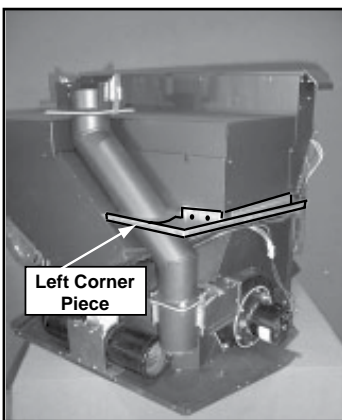

Figure 19.1
8. Install the left shroud corner with 2 screws into the hopper body and 1 down into filler piece. **Figure 19.1.**